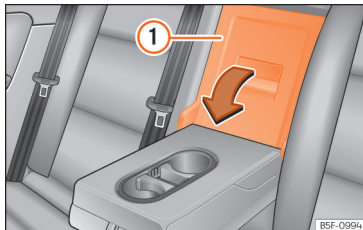

Fig. 174 On the rear seat backrest: opening the tailboard.
- Pull the release lever in the direction of the arrow and push the tailboard cover » **Fig. 174** ① down and forwards.